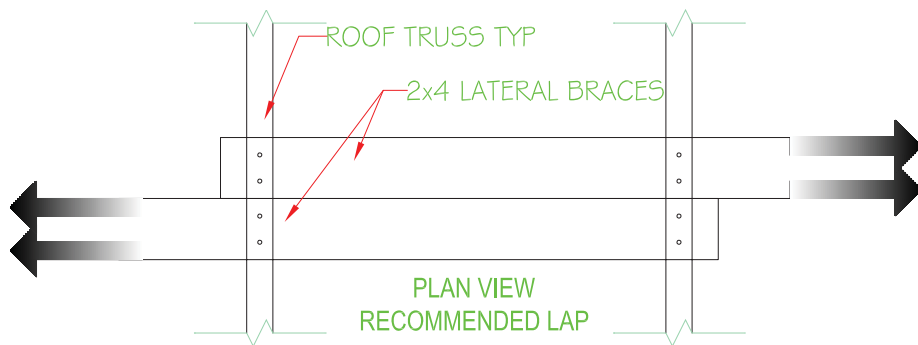

Figure 1. Overlaps of 28" or 52" min for 2' and 4' on-center spacing respectively.
- 1.) Overlaps of 28" or 52" min for 2' and 4' on-center spacing respectively: **4 nails * 106#/nail = 424#** (See Figure 1.)